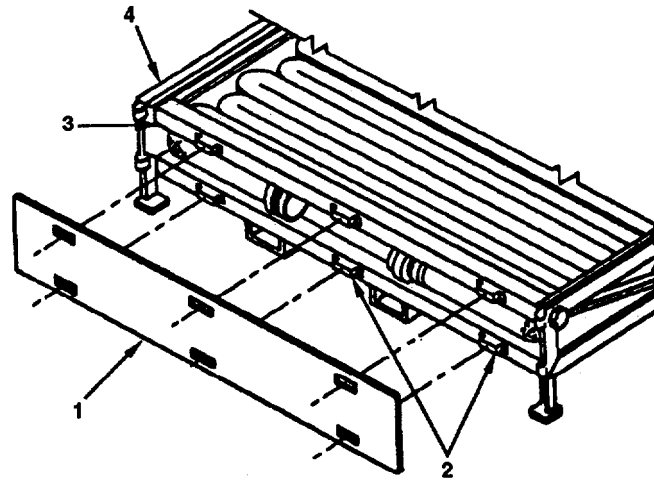

Figure 2-32. Positioning Breakaway on Flaking Box Assembly.
- j. Position breakaway (Figure 2-32, 1) so that holes in breakaway (1) are aligned with cleats (2) on tie bar (3) and flaking box (4).